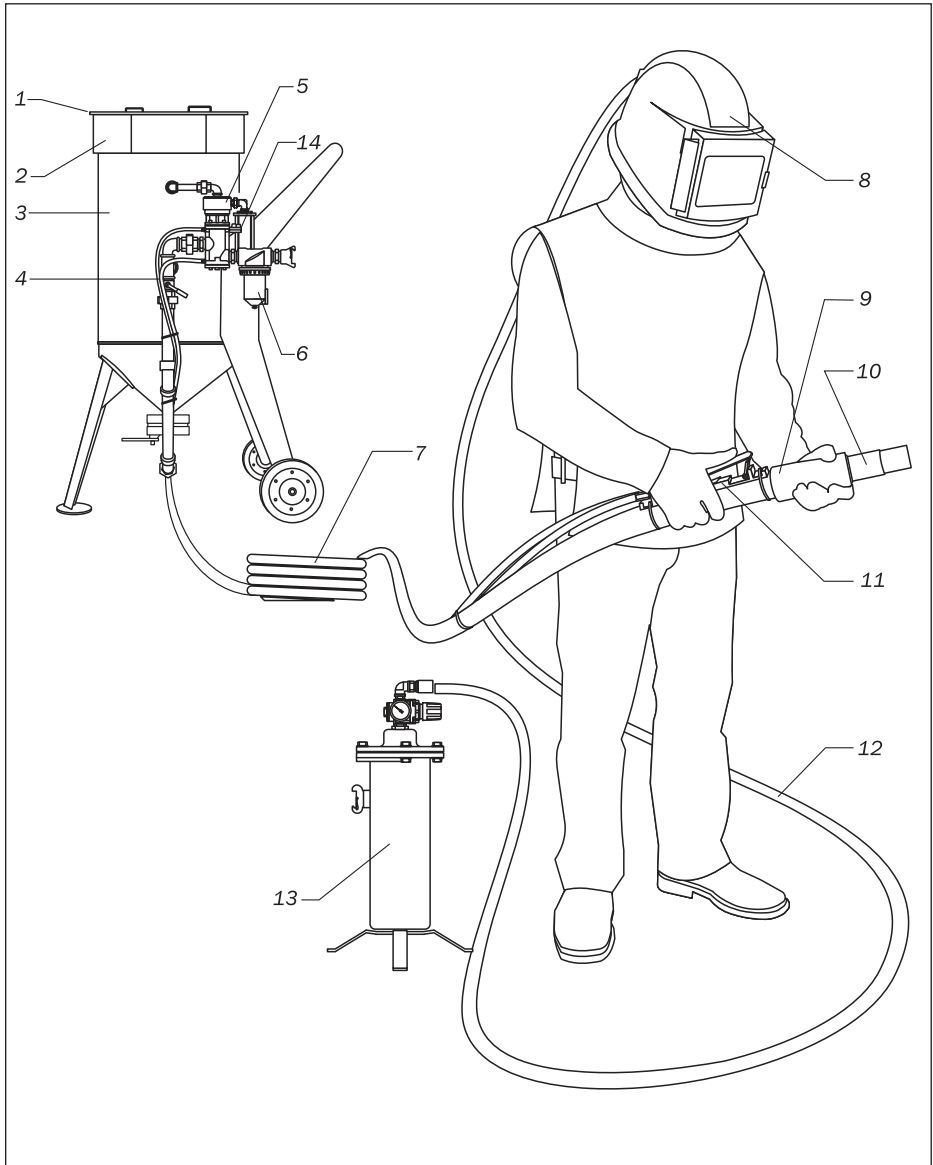

Fig. 2.1.
◀ Fig. 2.1.
10. Open the safety ball valve 14 (Fig.2.1).
**DURING A BREAK IN OPERATION ALWAYS OPEN SAFETY BALL VALVE 14 (Fig. 2.1) AT RC VALVE, OVER AGAINST THE BLUE LINE OF TWIN HOSE (TWINLINE). RC HANDLE LEVER SHOULD BE NEVER FIXED IN OPERATION POSITION. SUCH FIXING MAY CAUSE A SERIOUS INJURE.**